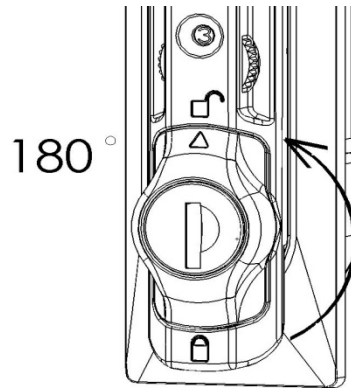

Fig. 2.5.4b Unlocking the lock
2. Turn the wing knob 180 degrees counterclockwise until the arrow points up (unlocked sign). Lift the lock swing handle and turn (see Fig. 2.5.4b).